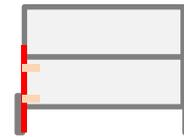

Figure 1a
2. Tape the marker to the LVE as shown in Figure 1a, with the marker tip resting on the paper